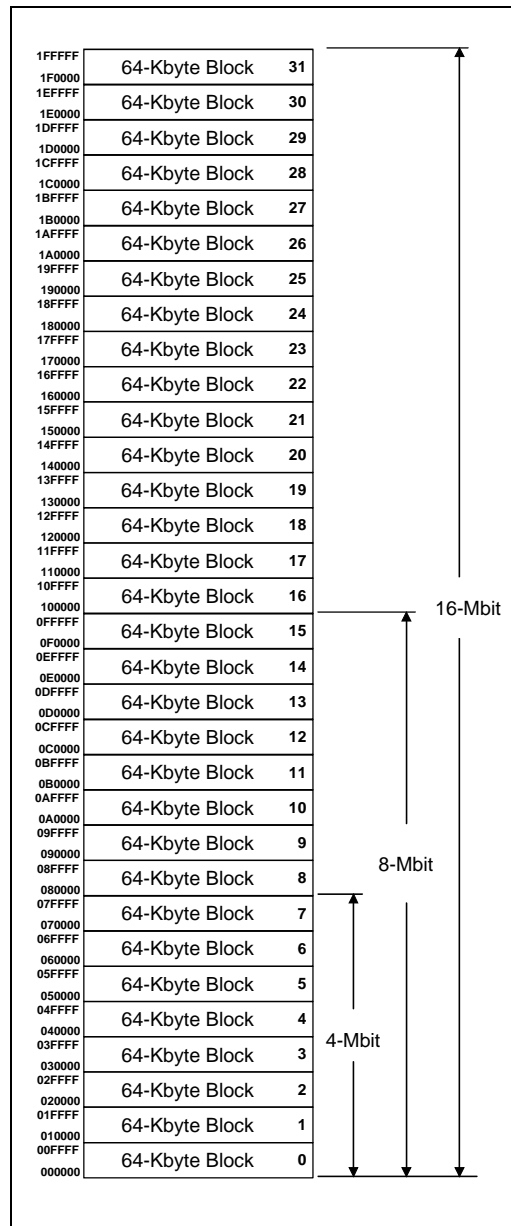

Figure 5. Memory Map
The byte-wide Smart 3 FlashFile memory family provides density upgrades with pinout compatibility for the 4-, 8-, and 16-Mbit densities. The 28F004S3, 28F008S3, and 28F016S3 are high-performance memories arranged as 512 Kbyte, 1 Mbyte, and 2 Mbyte of eight bits. This data is grouped in eight, sixteen, and thirty-two 64-Kbyte blocks which are individually erasable, lockable, and unlockable in-system. Figure 5 illustrates the memory organization.
- X selects the specific block lock configuration code to be read. See Figure 5 for the device identifier code memory map.